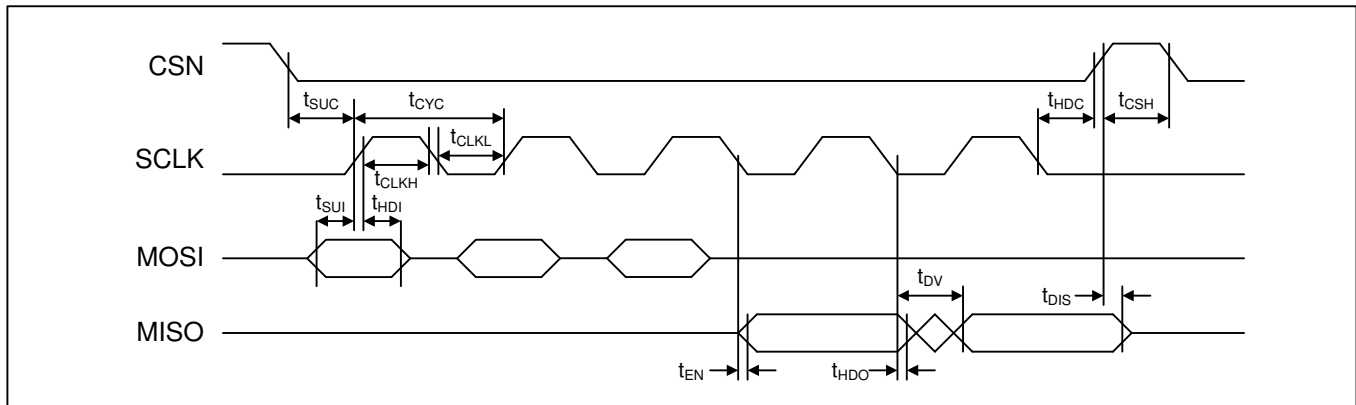

Figure 20 - SPI Slave Interface Timing
- Note 3:** See timing diagram in Figure 20.
Note 4: See timing diagram in Figure 20.